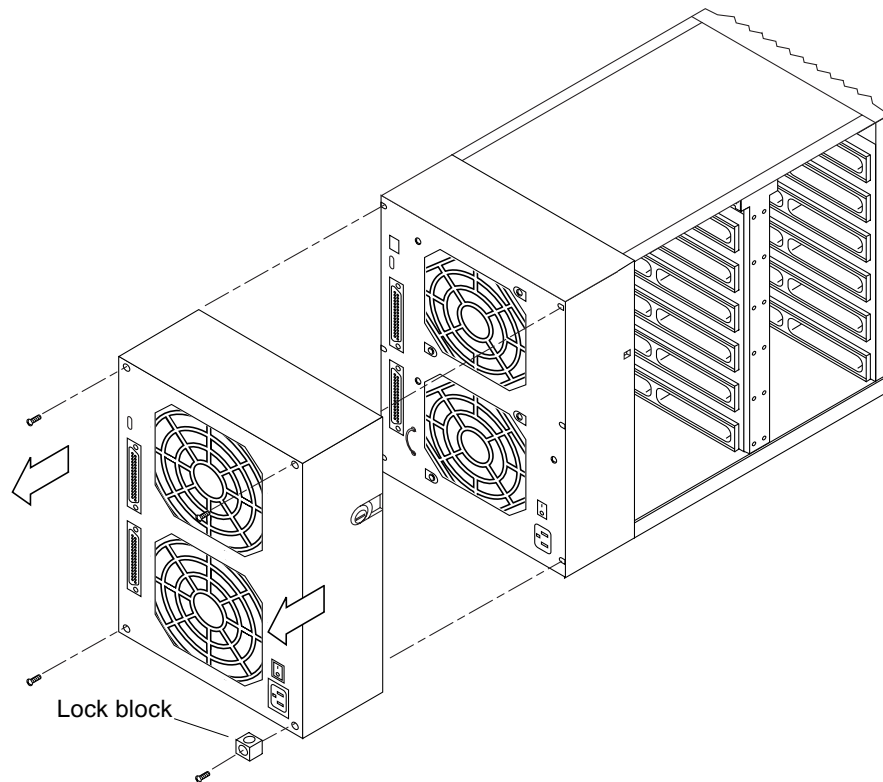

FIGURE 5-4 Removing and Replacing the Back Cover
- 4. Remove the lock block from the back cover (FIGURE 5-4).**
- 5. Remove the three Phillips screws that secure the back cover to the unit (FIGURE 5-4).**